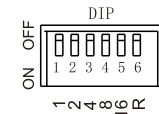

Fig. 4
- (1) DIP switch setting: DIP1-3 as program switch, please see setting as follow(1=ON, 0=OFF), DIP 4-5 is blank, DIP 6 is for remote controller (see fig. 4)
- (2) Calculation of DIP address code:
- (3) Using of Wireless Remote Controller: